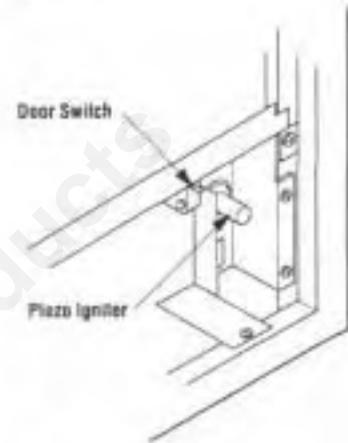

Figure 42
**\*Note:** To operate the appliance while leak testing, ensure that the door switch is depressed or the unit will not light (refer to Figure 42).
To light the burner, turn "ON" the remote wall switch (Figure 42) and rotate the gas valve control knob counterclockwise to the "ON" position ("ON" will be at the bottom side of the valve).
To light the burner, turn "ON" the remote wall switch (Figure 42) and rotate the gas valve control lever up to the "ON" position (the lever will be in the "ON" position when the lever is sticking straight out).